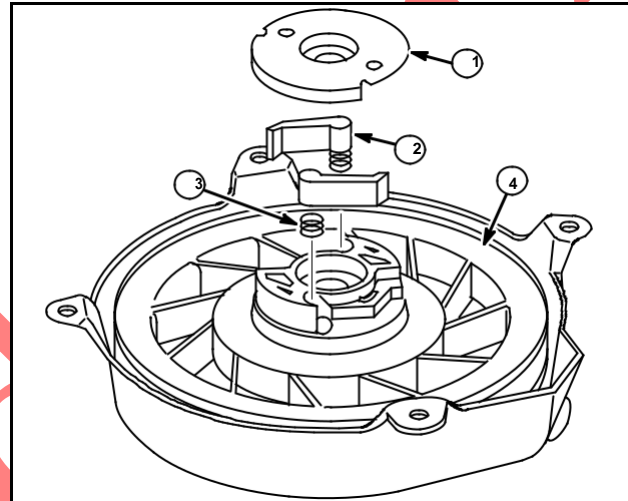

Fig. 46
1. Note location of free end of spring in pulley assembly (2) and location of spring retainer (1) in starter housing, Fig. 46.
4. Install dogs (3) and dog springs (4) in pulley assembly, Fig. 46.
6. Place retainer on pulley with pierced holes between dogs and stops on pulley, Fig. 46.